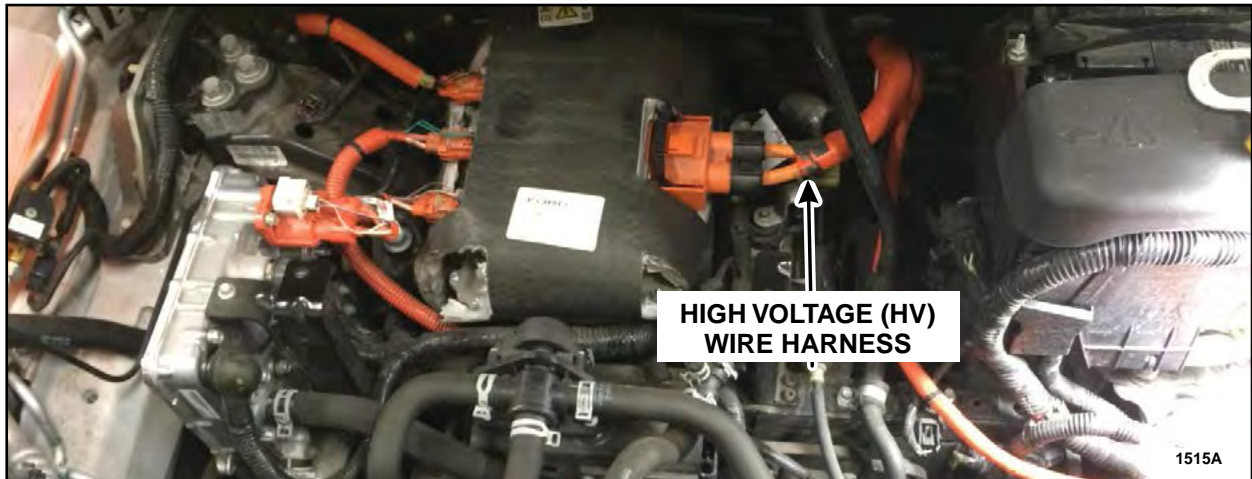

FIGURE 1a
2. Inspect the HV wire harness. See Figure 1a.